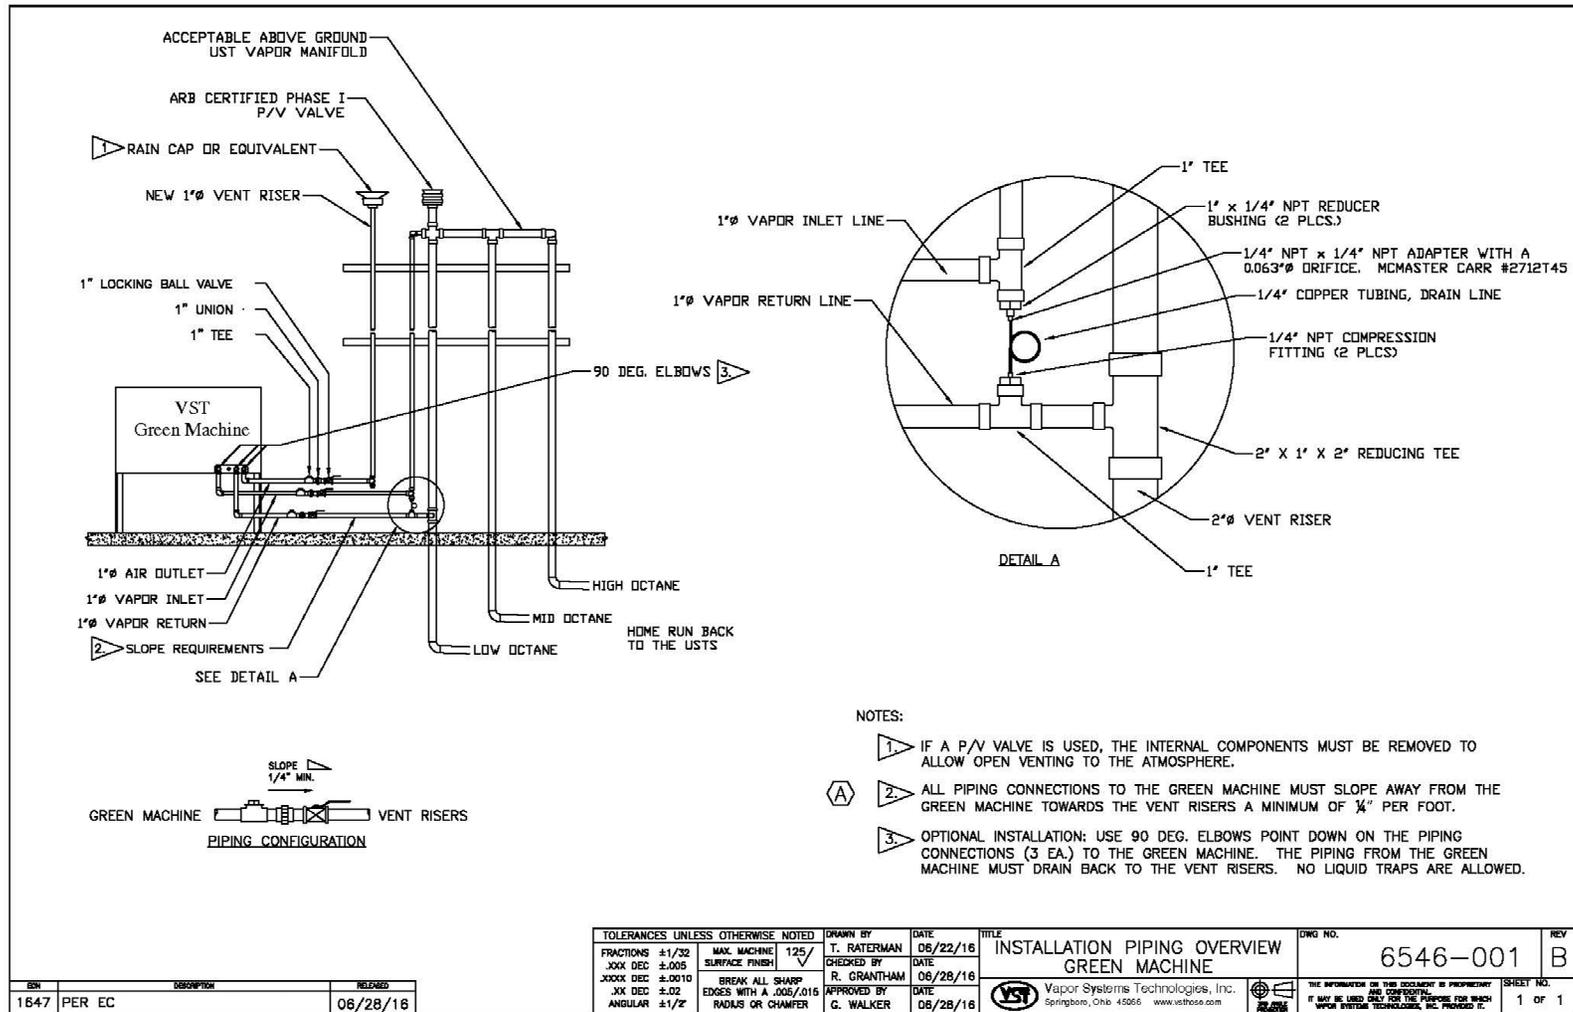

Figure 7-4: GREEN MACHINE Vapor Piping Layout
2. At the GREEN MACHINE, make sure the locks from the three ball valves have been removed, all three valves are closed, and the caps from the three tees have been removed. **See Figure 7-4.**